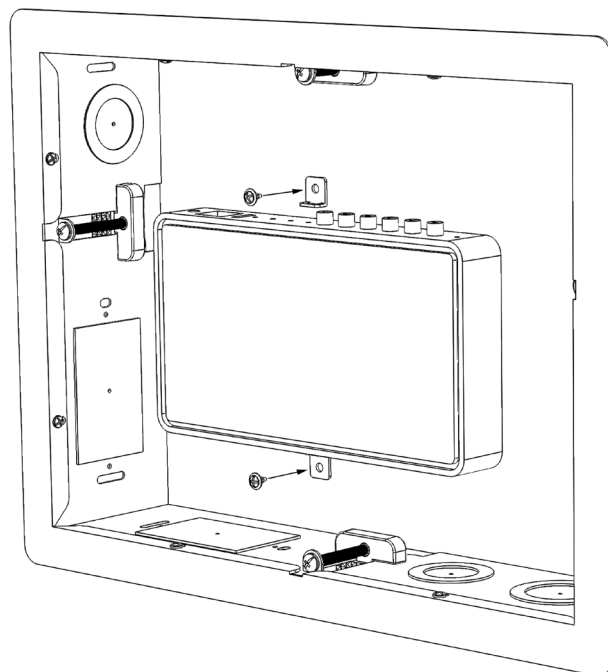

Fig 2
- b. Determine where you need to locate your equipment. Attach the CMK-1 metal tabs with the supplied self-drilling screws. Place them about 1/4" away from the edge of the equipment, one on each side, top and bottom are best. Be sure to check for clearance behind the enclosure, as the screws will pass through by 1/2". (Fig 2)